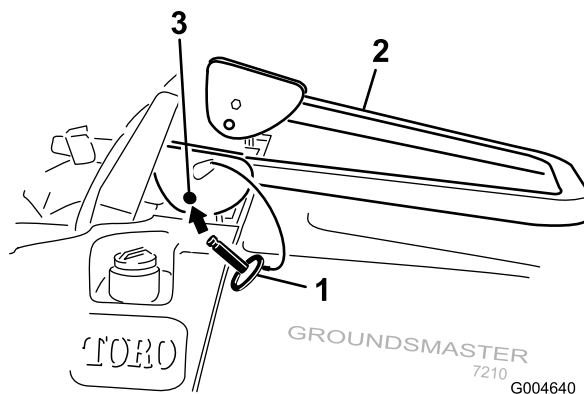

Figure 14
2. Lower the roll bar to the down position (Figure 14).